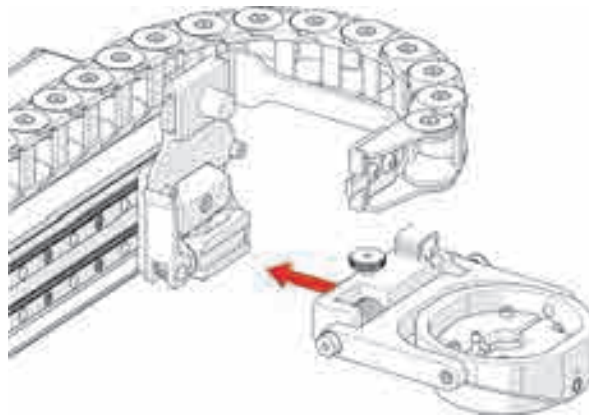

Figure 4-95 Insert the dovetail jaw in raster arm pivot nose
4. Insert the dovetail jaw of the dual conventional UT probe holder (see Figure 4-95 on page 162) in the pivot nose mount of the raster arm.